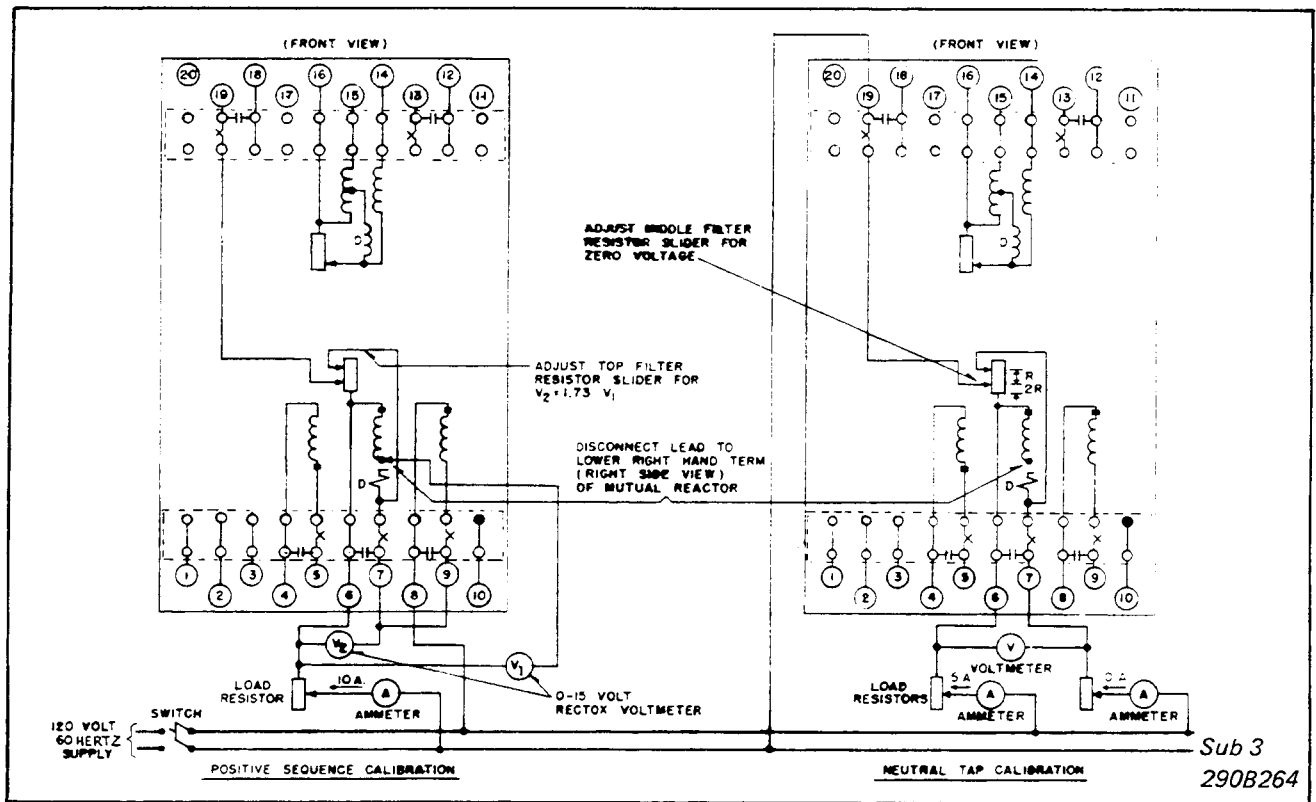

Fig. 8. Test Diagram for Calibration of Negative Sequence Current Filter in KRQ Relay.
5. Refer to Fig. 8.
Refer to Fig. 8 for positive sequence calibration.
Refer to Fig. 8 for neutral tap calibration.